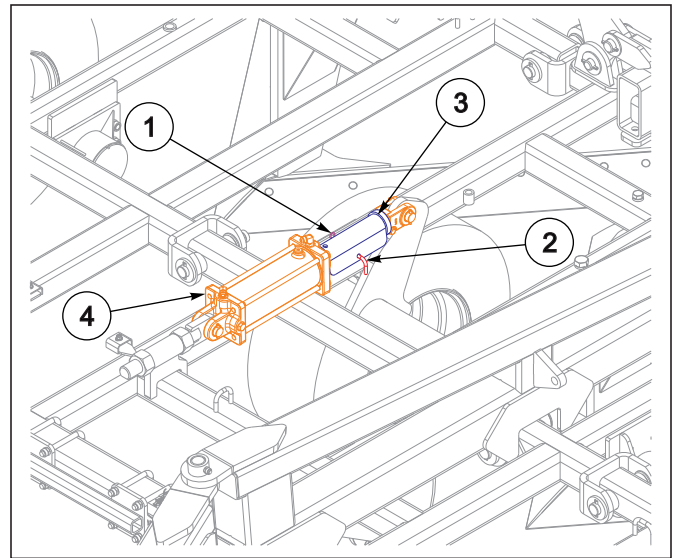

Figure 4-3: Installed Transport Locks
3. Check to make sure the tractor hydraulic reservoir is full of the manufacturer's recommended oil. Slowly raise the machine, and continue to hold the hydraulic lever until all lift cylinders (4) are fully extended.
4. With all cylinders (4) fully extended, remove the 1/8" hairpin (2), I pin (1) and 2 x 10 transport lockouts (3) See Figure 4-3.